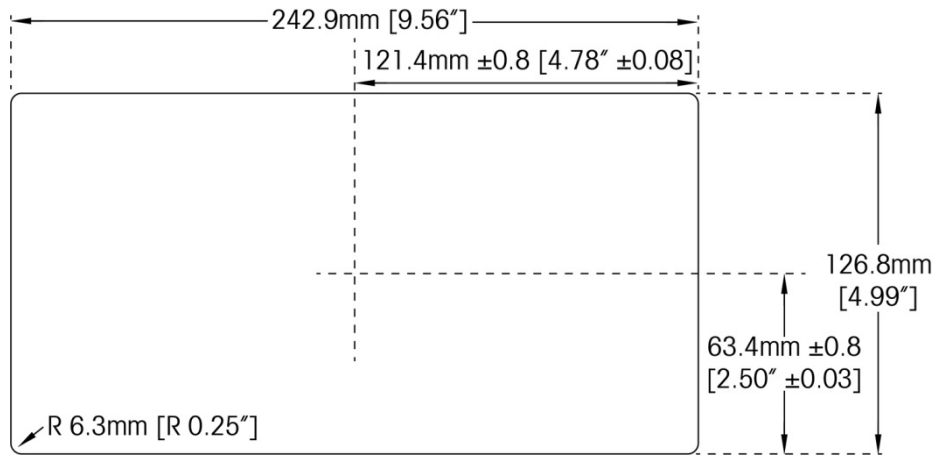

Figure 2-10: Panel Cutout Dimensions
4. Cut an opening in the panel or industrial enclosure per the panel cutout dimensions shown in inches and [mm] in Figure 2-10.